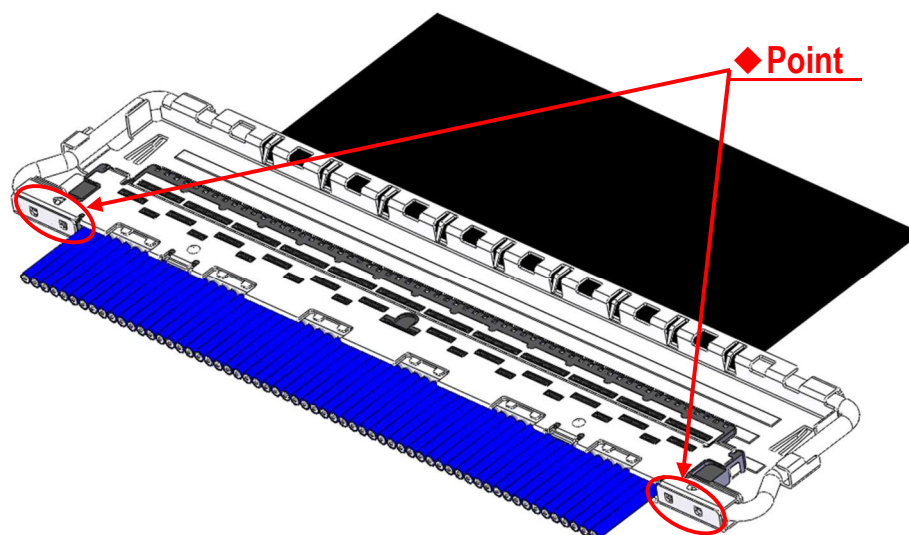

Fig.11 Soldering of SHELL-A and SHELL-B
④ SHELL-A と SHELL-B を半田コテにて全箇所半田付けする。 (Fig.11 ◆部)
SHELL-A and SHELL-B are soldered with the soldering iron at all designated points. (Fig.11 ◆point)